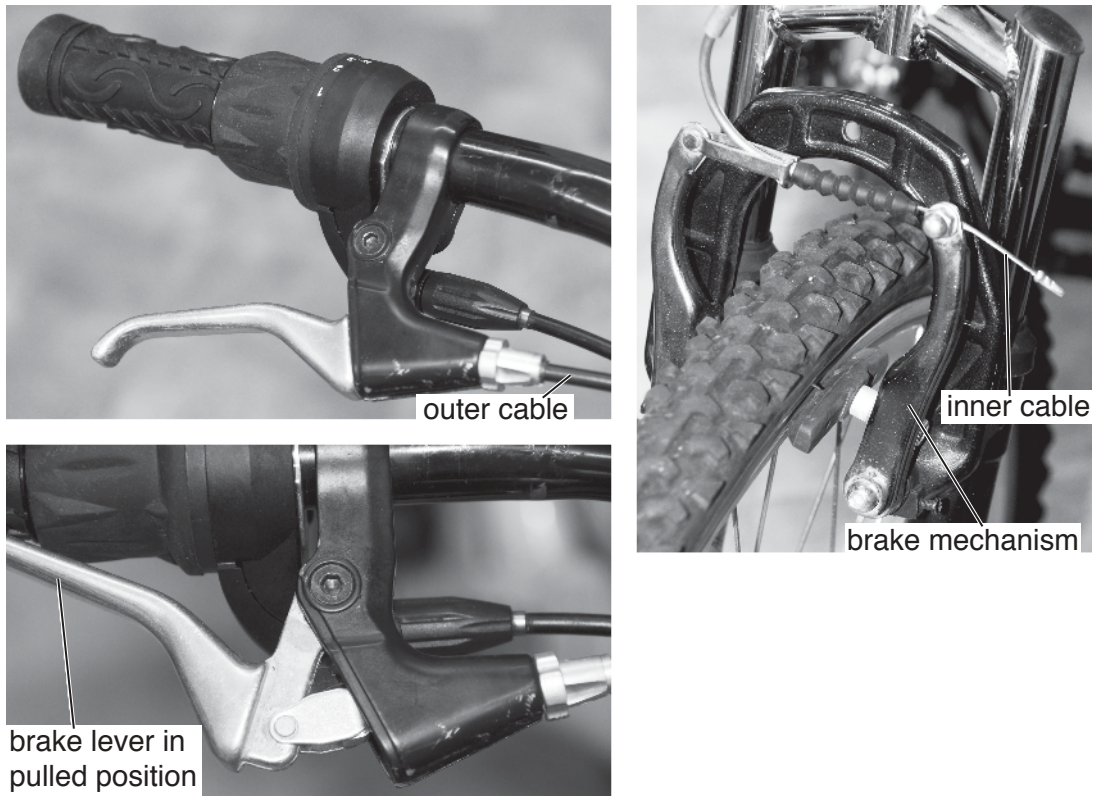

Fig. 8
- 9 (a) Fig. 8 shows a cycle brake lever in the released and pulled position and the brake mechanism.